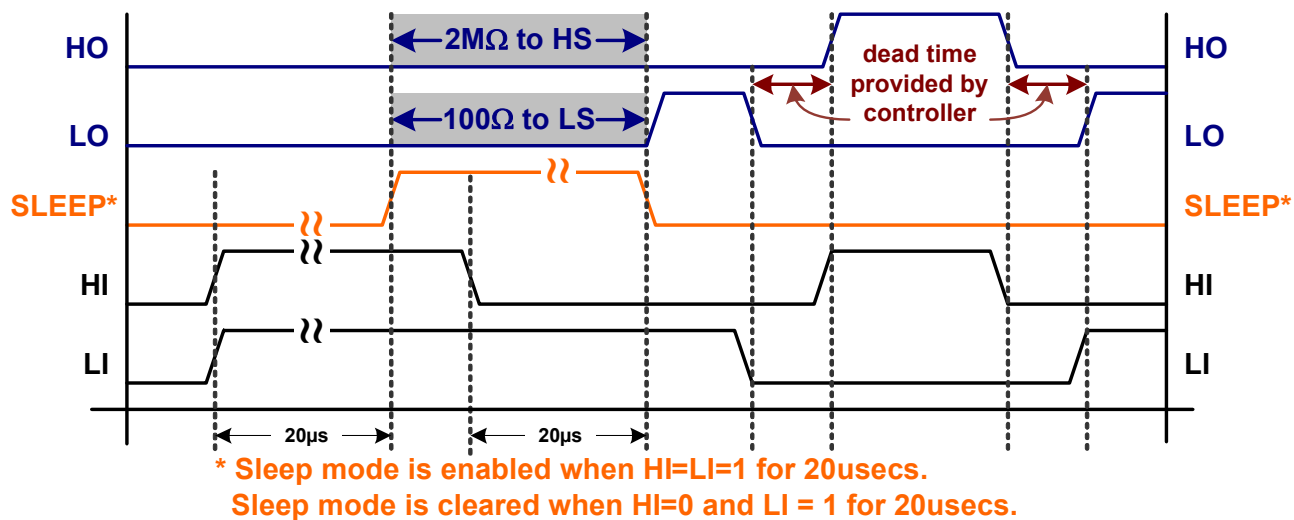

FIGURE 4. SLEEP MODE ENABLED OR CLEARED BY HI AND LI INPUTS
14. When HI and LI are on simultaneously, HO and LO are never on simultaneously. This feature is intended to initiate sleep. This feature cannot be used to prevent shoot-through for normal alternating switching between LI and HI. Dead time must be provided when $HI = 0 \rightarrow LI = 1$, or $LI = 0 \rightarrow HI = 1$. See Timing Diagrams (Figure 4).